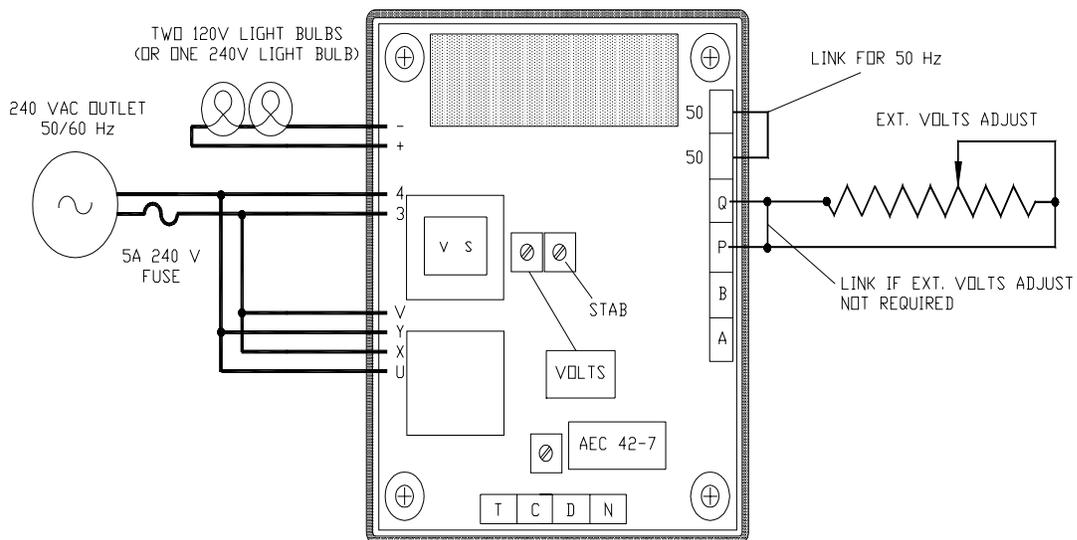

Figure 6. Test Setup Diagram
- a. Connect the test setup as shown in Figure 6. Do NOT apply power. Ensure the light bulbs are rated 120 volts and less than 100 watts. Alternatively a single 240 V bulb may be used.
- b. Adjust the internal (V) and external voltage adjust potentiometers fully CCW.